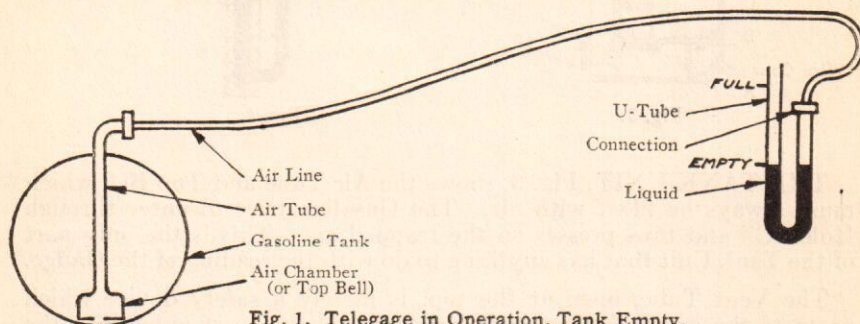

Fig. 1. Telegauge in Operation, Tank Empty.
1. Take out draw plug "G" (fig. 1) in bottom of supply tank and draw off fluid.
2. Disconnect (3) copper tubes in rear of supply tank.
3. Remove (4) cap screws "H".
2. Unscrew filler plug "J" (fig. 1).
The K-S Telegauge consists of three units—the Head, Tank Unit and Air Line. In operating condition the Air Tube and Top Bell of the Tank Unit and the Air Line connecting the Tank Unit to the Head are filled with air, (See Figures 1 and 2). The gasoline tries to rise to the same level in the Tank Unit as it is in the tank. This is not possible because of the air trapped between the bottom of the Tank Unit and the Liquid in the Head. However, the effort of the gasoline to get into the Top Bell presses on the trapped air. This pressure is communicated through the Air Tube and Air Line to the Head on the Instrument Board, where it is recorded by the rise of the Red Liquid in the Glass Tube.
Figures 1 and 2 show a simple Telegauge. The Bottom Bell and Gasoline Tube have been omitted as they take no part in the reading of the gauge. They are simply used as a means of supplying air to the Top Bell to overcome any loss by absorption.